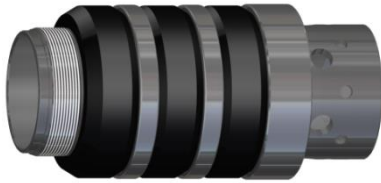

Fig. 6
L-10.1) Stand rubber mandrel (11) on end with threads facing upwards. Install rubber retainer (15), elements (13, 14), and rubber spacers (12) onto rubber mandrel (11) (Fig. 6).